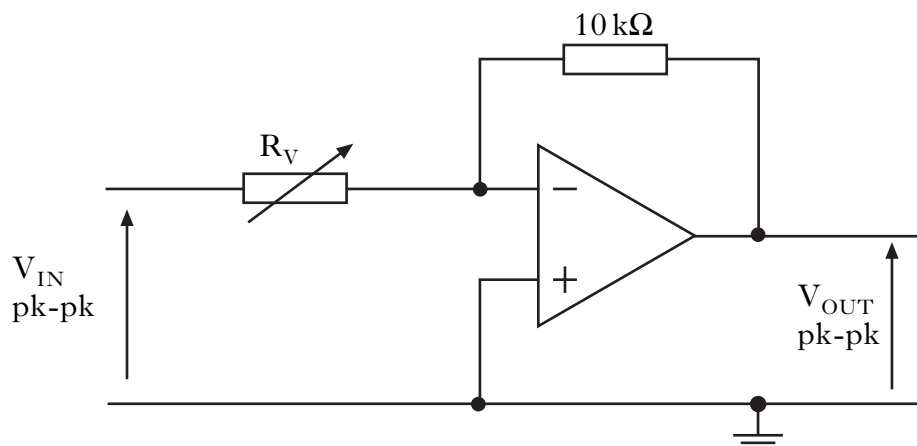

Figure Q12(a)
12. For the circuit shown in Figure Q12(a) below, the variable resistor (R_V) can be varied between $1\text{ k}\Omega$ and $100\text{ k}\Omega$.